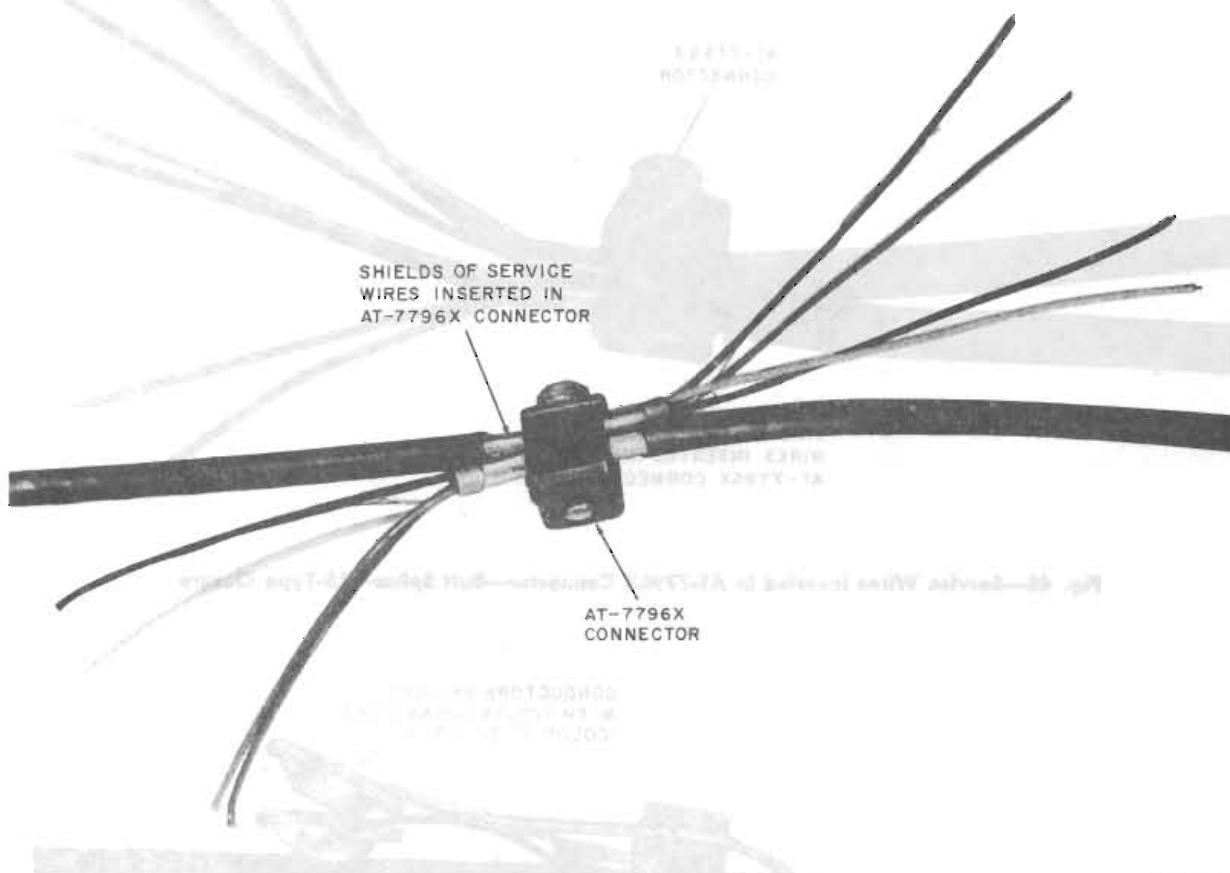
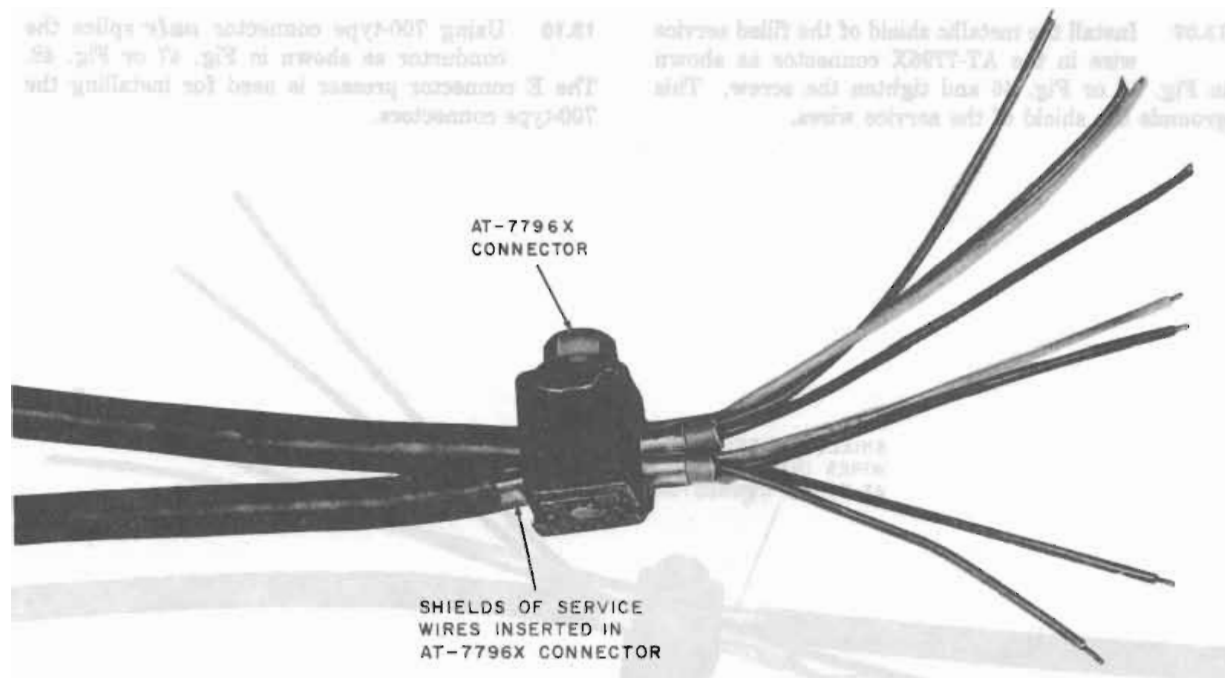

Fig. 45—Service Wires Inserted in AT-7796X Connector Straight or In-Line Splice—15-Type Closure
Fig. 46—Service Wires Inserted in AT-7796X Connector—Butt Splice—15-Type Closure
13.09 Install the metallic shield of the filled service wire in the AT-7796X connector as shown in Fig. 45 or Fig. 46 and tighten the screw. This grounds the shield of the service wires.